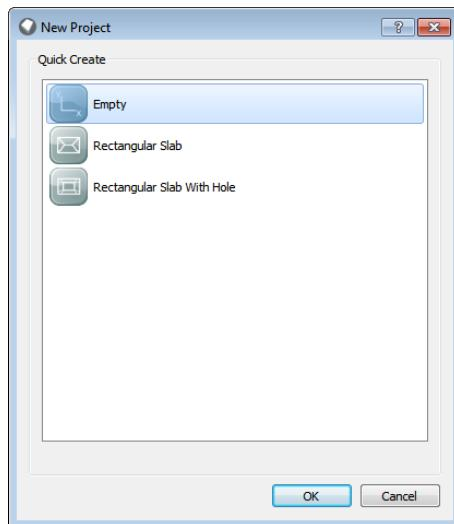

Figure 3.1: The LimitState:SLAB New Project dialog
- ▷ Select **Create a new project** and click **OK** to bring up the New Project dialog, (see Figure 3.1).